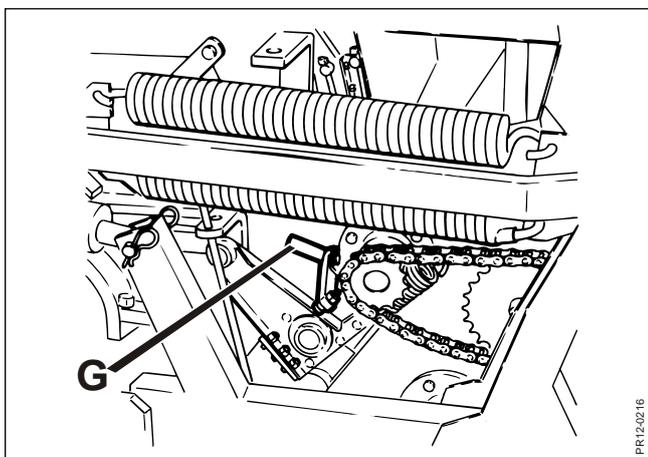

Fig. 4.2
**Fig. 4.2** The scraper is dismantled by removing the screws that secure the shear bar **G** after which the scraper and the shear bar can be pulled out of the opening in the rotor housing.